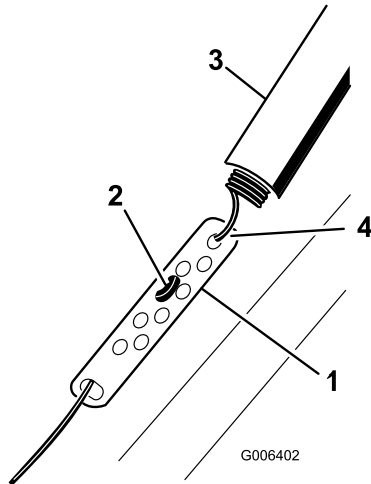

Figure 21
1. Slide up the spring cover and unhook the spring from the adjuster link (Figure 21).
2. Move the Z-fitting to a higher or lower hole on the adjuster link as needed to obtain the 2 to 3 mm (1/16 to 1/8 inch) gap between the control bar and the handle (Figure 21).